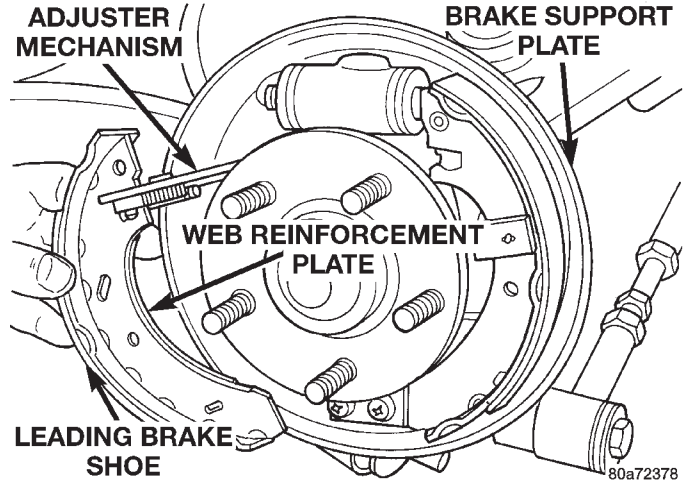

Fig. 112 Leading Brake Shoe And Adjuster Mechanism
(10) Remove the leading brake shoe and the adjuster mechanism as an assembly, (Fig. 112) from the rear brake support plate. **The adjuster mechanism can not be separated from the leading**
NOTE: The leading rear brake shoes on this vehicle are designated for which side of the vehicle they are to be installed on. When correctly installed, the web reinforcement plate on the brake shoes (Fig. 117) will be facing toward the brake support plate (Fig. 112).
NOTE: When installing the leading brake shoe, the web support plate (Fig. 112) must be facing the brake support plate.
(5) Install the leading brake shoe and the adjuster mechanism as an assembly (Fig. 112) on the brake support plate.